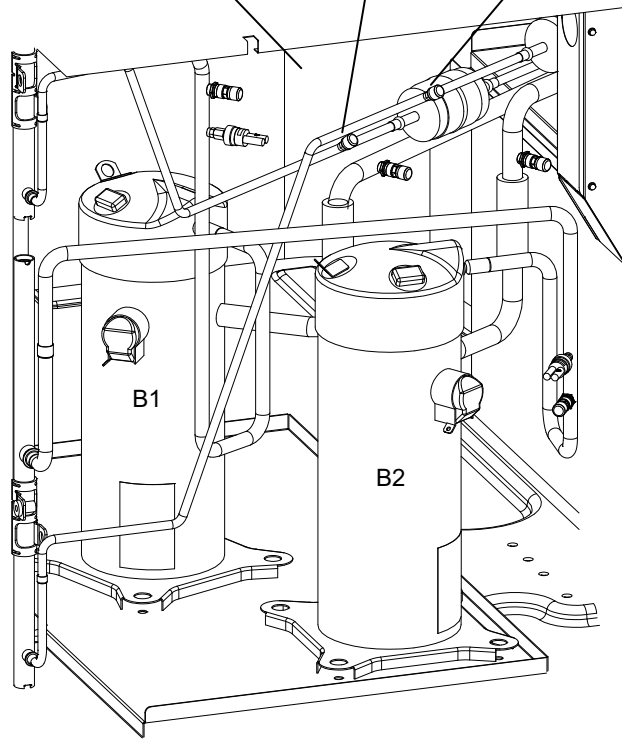

FIGURE 7
- 1- Disconnect wires marked S11 as shown in figure 7 for
ZG/ZC 092-150	Figure 7